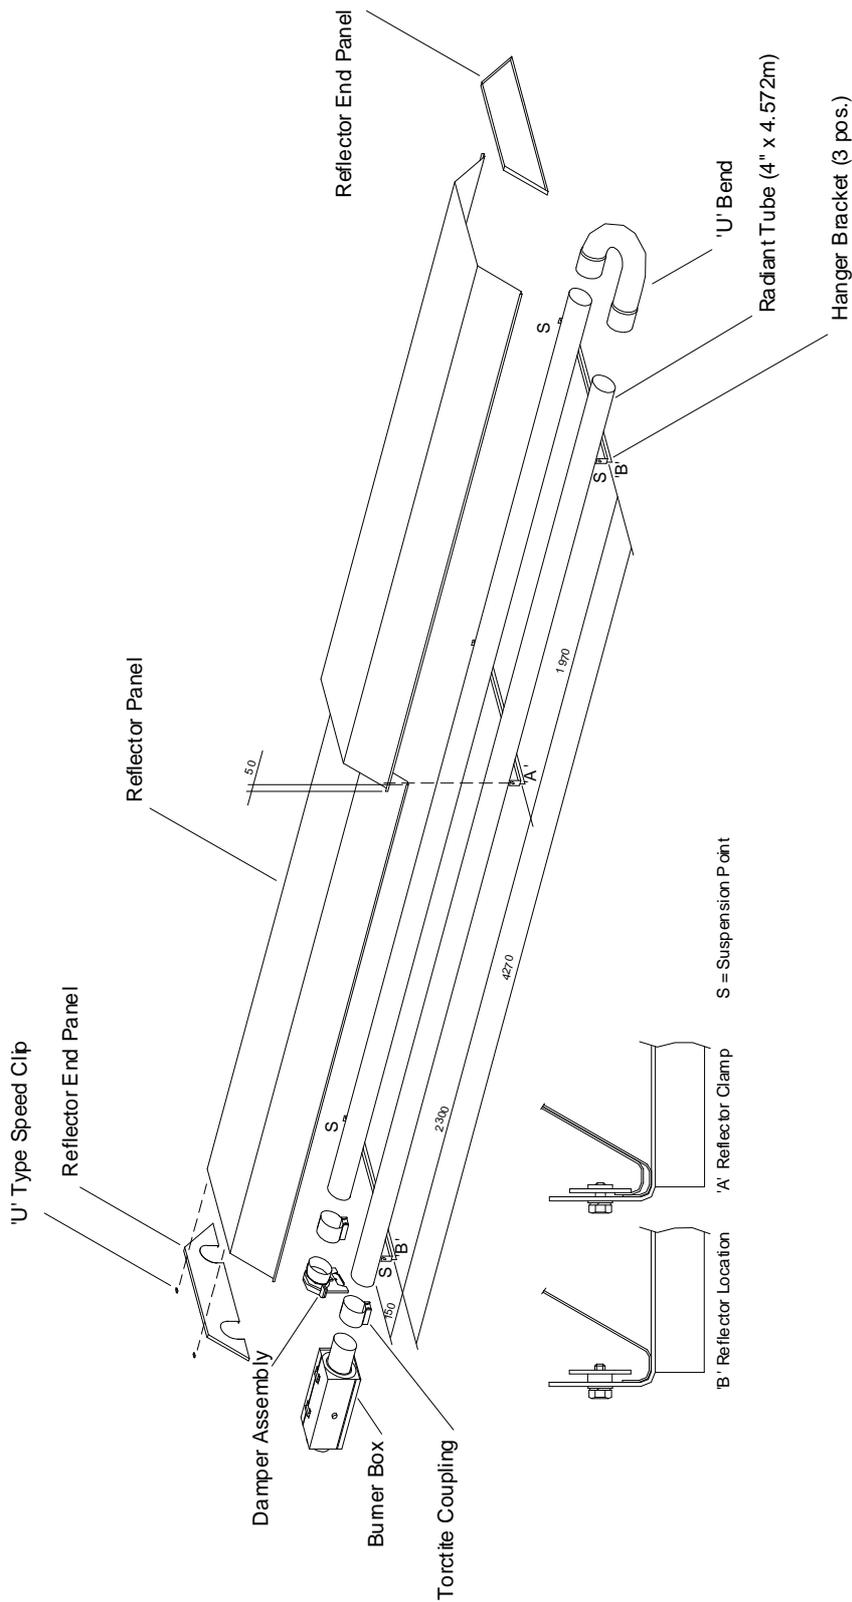

Fig. 18
- 4.3.2 Assemble the three Hanger Brackets to the Radiant Tubes using two U bolts per bracket (from fastenings pack) and position along the Radiant Tubes as shown in Fig 18. Tighten the nuts sufficiently to retain the Hanger Brackets. Do not over tighten.
- 4.3.5 Place the two Reflector Panels onto the Hanger Brackets and position to provide a 50mm overlap at the centre, arranged equally about the centre Hanger Bracket. Clamp the two Reflector Panels to the centre Hanger Bracket using two retainers and M6 setscrews and washers (fastening pack). Screw the remaining (4) retainers to the two outer Hanger Brackets to provide location for the Reflector Panel ends as shown in Fig. 18.
4.3.6 Position the Reflector End Panel (notched) over the Radiant Tubes and into the end of the Reflector Panel with the End Panel flange flush with the end of the Reflector. Secure the Reflector End Panel to the Reflector Panel by use of 6 - U type speed clips provided (fastenings pack); 2 clips per facet of Reflector Panel, as shown in Fig. 18.
4.3.7 The appliance should now be raised and suspended from previously fixed chains or drop rods as detailed in section 3.1, at suspension points indicated in Fig. 18. Rope or webbing slings should be used when lifting from above. If using a forklift to position the appliance, ensure that the appliance is balanced on the forks prior to lifting.